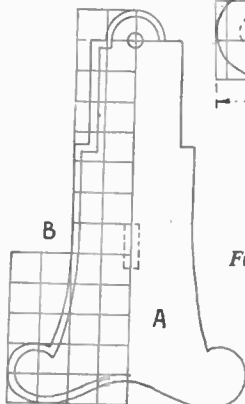

Fig. 5
simply of two pieces of $\frac{1}{4}$ in. or $\frac{1}{2}$ in. wood cut to outline, as at (A) Fig. 5, or each leg may consist of two thicknesses of wood, say, $\frac{1}{4}$ in. and $\frac{1}{2}$ in. cut to shape and glued together as at (B) Fig. 5. The outer layer should allow for a margin all round of about $\frac{1}{4}$ in. as seen in the detail. A mortise should be cut in the $\frac{1}{4}$ in. layer of the legs to the dotted lines, but in the case of the solid legs the mortise may be either cut right through the thickness of the wood or omitted altogether and stout glued dowel pins run in from outside into the under rail.